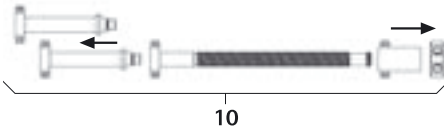

Fig. 5
- Dismount distraction spindle 10, see Fig. 5.